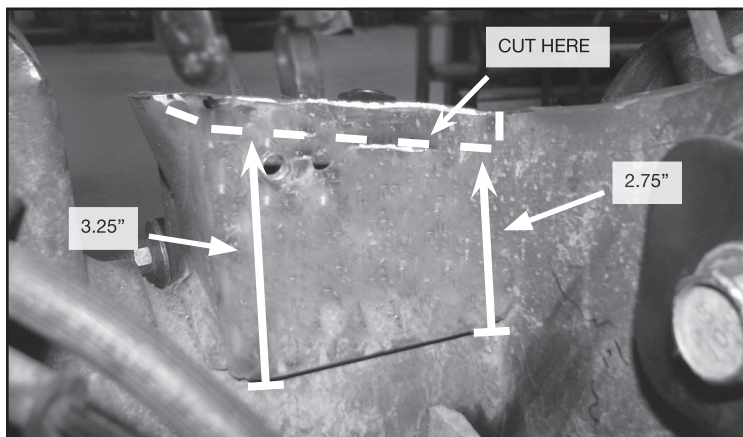

FIGURE 13 - STEP 9
9. Once the lower coil spring perch has been removed, locate the back of the axle bracket and mark from the bottom 3.25" (outside) and 2.75" (inside). Cut and sand to a smooth finish. **SEE FIGURE 13**